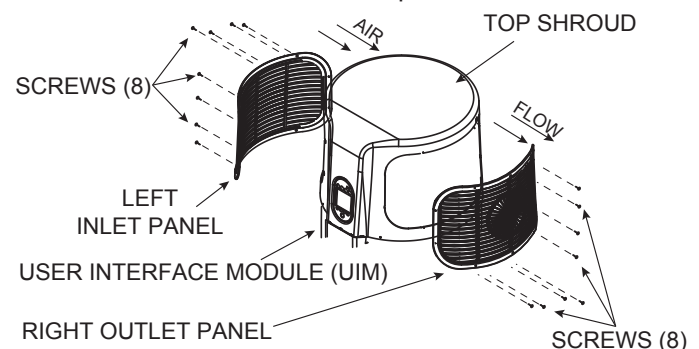

Figure 3.
1. Remove the screws from the right louvered access panel and remove the panel. See Figure 3.